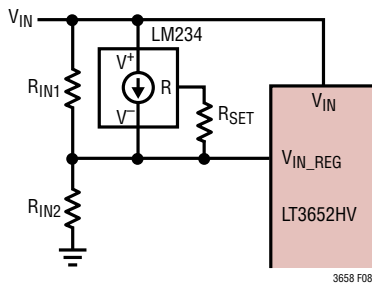

Figure 8. MPPT Temperature Compensation Network
In the circuit shown in figure 8,
As the temperature coefficient for V_{MP} is similar to that of V_{OC} , the specified temperature coefficient for V_{OC} (TC) of $-78\text{mV}/^\circ\text{C}$ and the specified peak power voltage ($V_{MP}(25^\circ\text{C})$) of 17.6V can be inserted into the equations to calculate the appropriate resistor values for the temperature compensation network in Figure 8. With R_{SET} equal to 1000Ω, then: